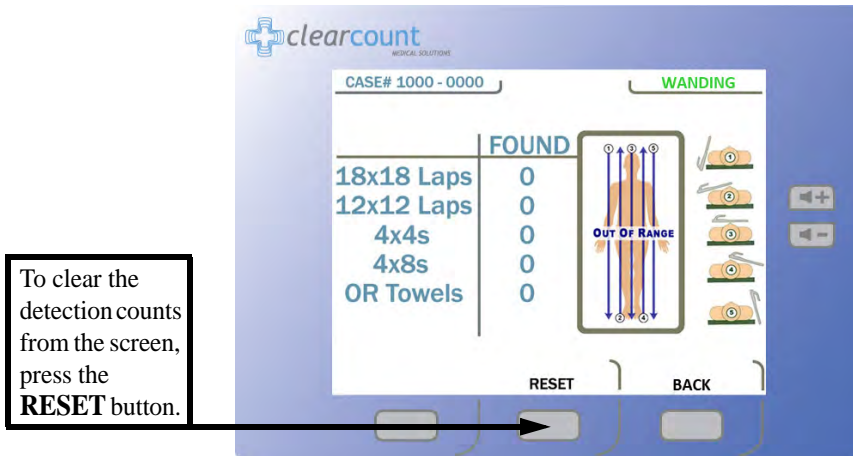
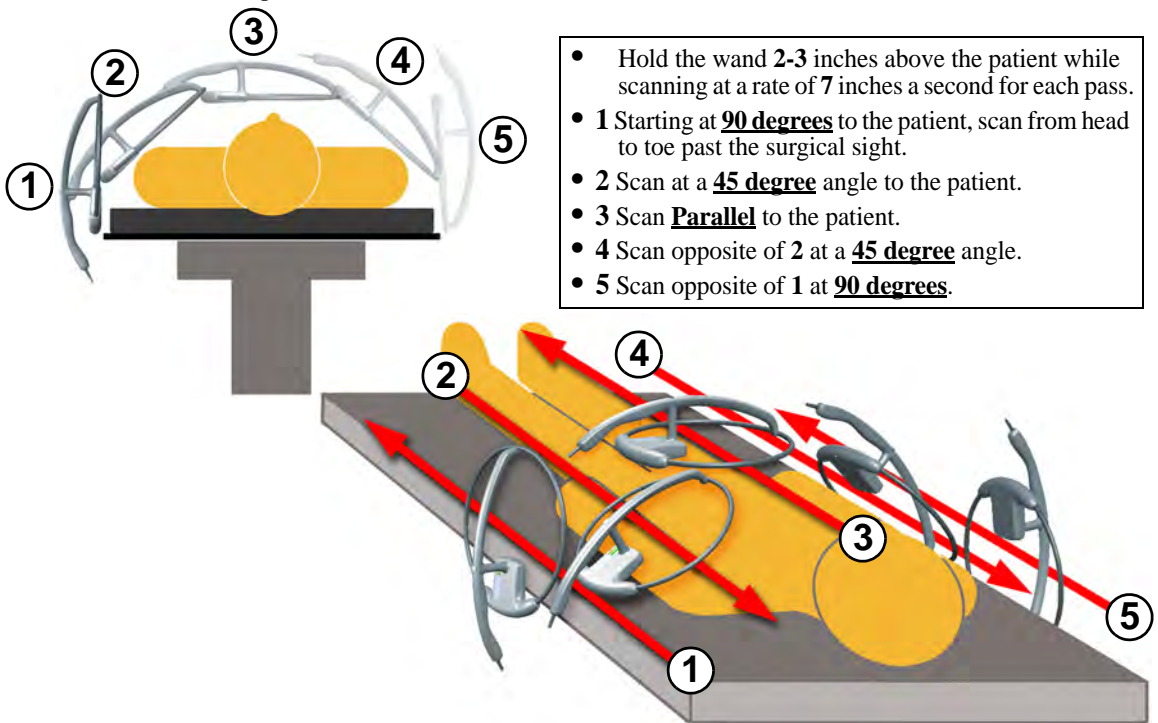

Figure 2-12 Wand Mode Screen
Figure 2-13 Patient Scan Procedure
- Step 3 Press the **WAND** button on the **Count Mode** screen to activate the wand. The green LED on the handle will start to flash when the wand is activated. The **Wand Mode** screen shown in **Figure 2-12** will then appear.
Step 5 Slowly scan the patient from head to toe moving at a rate of 0.2 meters a second (7 inches/sec), holding the SmartWand 2 to 3 inches above the patient. Follow the onscreen instructions shown in **Figure 2-12**. It is important to do all the scans(1-5) in order to most accurately identify potential retained sponges. (**Figure 2-13**)